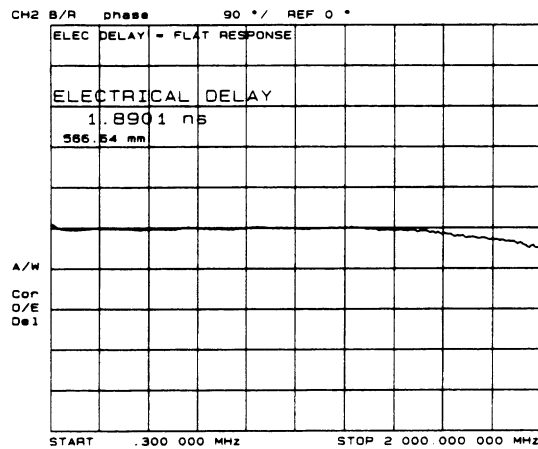

Figure 3-7. Electrical Delay Used to Flatten Phase Response
- 8 To measure the electrical delay or transmit time through the device under test, you must add enough electrical length or delay to the device to flatten out the phase response as close to zero degrees as possible. Adding electrical delay is a mathematical function that attempts to remove the length of the device by adding the delay to the measurement data. Press: SCALE REF, *ELECTRICAL DELAY*, then rotate (clockwise) the front panel knob until the trace is as flat as possible, similar to Figure 3-7.